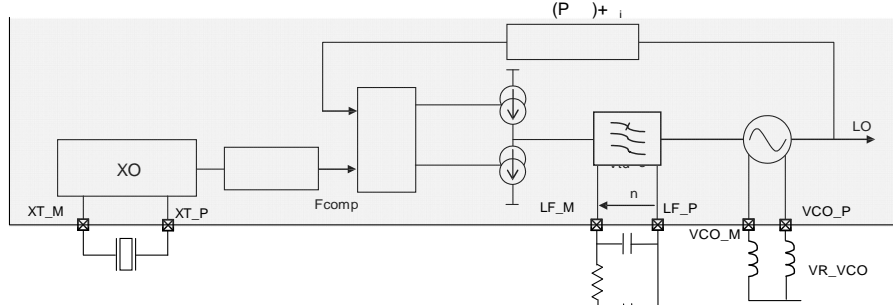

Figure 5: Frequency Synthesizer Description
The crystal oscillator (XO) forms the reference oscillator of an Integer-N Phase Locked Loop (PLL), whose operation is discussed in the following section. Figure 5 shows a block schematic of the RF64 PLL. Here the crystal reference frequency and the software controlled dividers R, P and S determine the output frequency of the PLL.
As shown in Figure 5 the PLL structure comprises three different dividers, R, P and S, which set the output frequency through the LO. A second set of dividers is also available to allow rapid switching between a pair of frequencies: R1/P1/S1 and R2/P2/S2. These six dividers are programmed by six bytes of the register MCPParam from addresses 6 to 11.